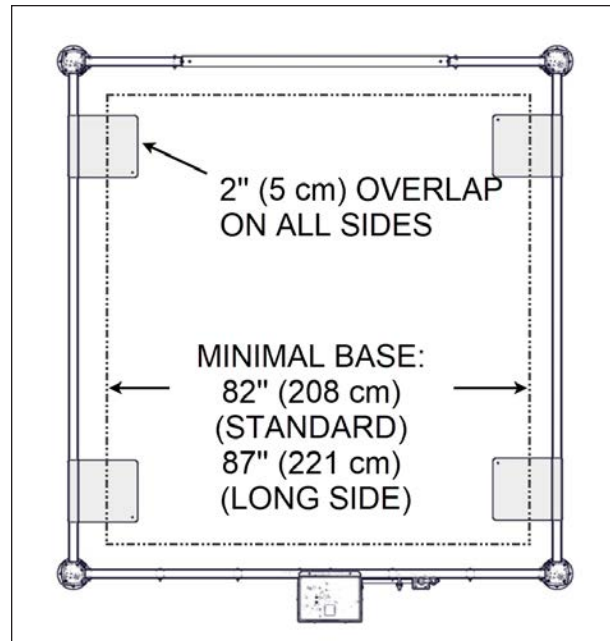
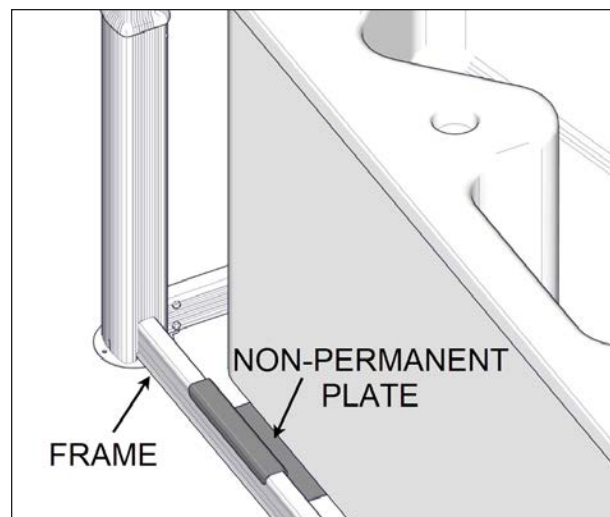

FIGURE 70: LOCATION OF THE PLATES
FIGURE 71: PLATE AND U-FRAME
Three installers are required. Two installers should lift the spa at one end approximately 4" off the ground while the third installer slips the non-permanent mounting plates under the spa and hooks them over the U-frame see Figure 70 and Figure 71.
2. Repeat step on the other side as shown on Figure 71